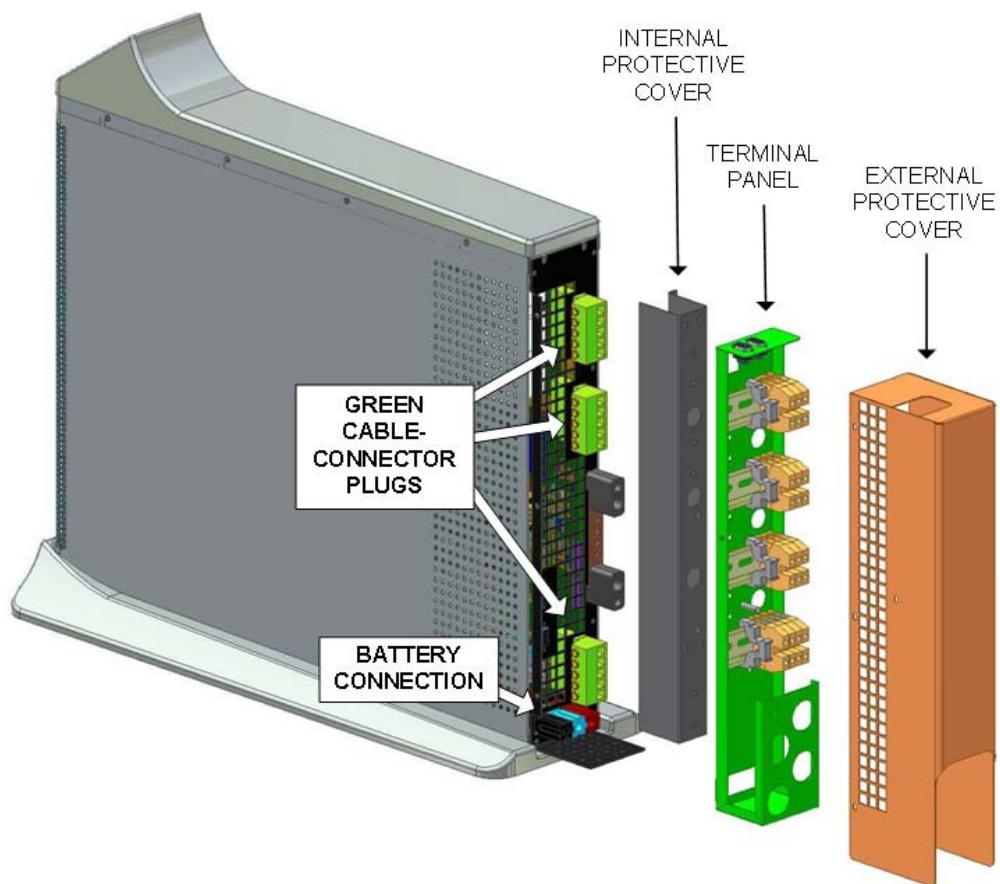
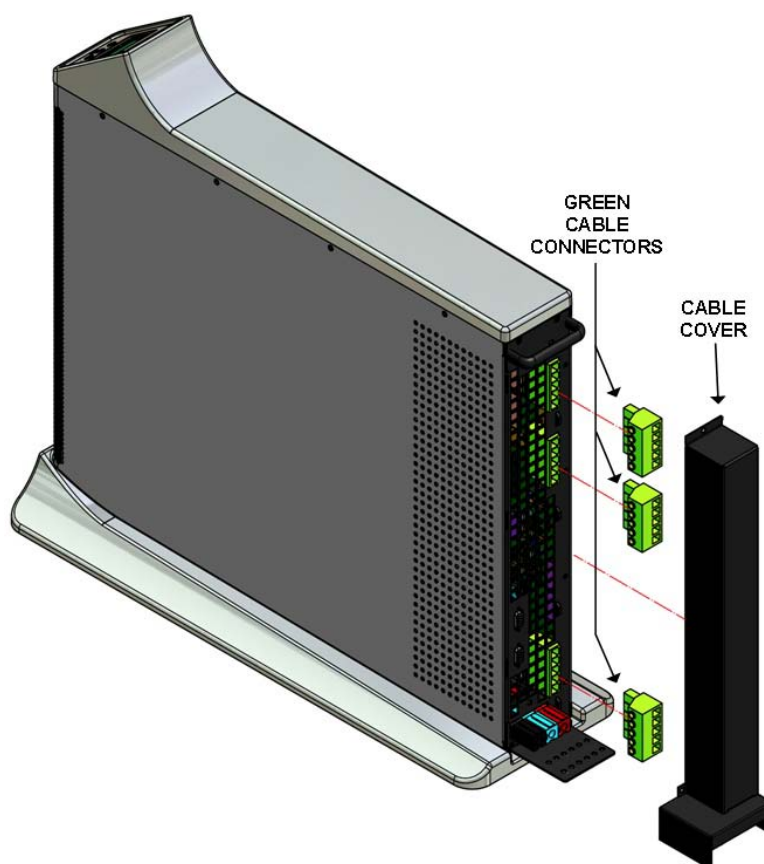

Figure 23: Components of the terminal assembly
Figure 24: Reconfiguring from 3-3 to 3-1
14. Use a screwdriver to remove the external protective cable cover on the rear of the UPS. Refer to Figure 23 or Figure 24 below. (For clarity's sake, the electrical cables are not shown in Figure 23 or Figure 24).
- 17.3 Remove the terminal assembly from the UPS (refer to Figure 23 below). The terminal assembly consists of 3 parts: the terminal panel, the black metal internal protective cover behind it, and green connector plugs. The terminal assembly should be removed as a single unit, there is no need to disassemble it into its separate components.
- Remove the protective cover that protects the green terminal plugs (see Figure 24 below).
- Unplug the green cable-connector plugs from the rear of the UPS. See Figure 24.